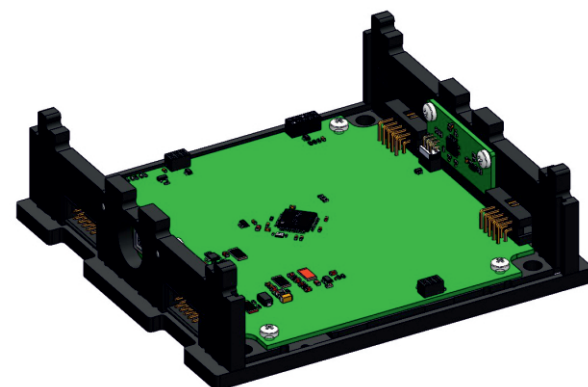

Fig. 12: Connecting a sun sensor board with the general-purpose board
2) Secure sun sensor boards #1 and #3 to side walls using two M3x6 screws on both sides. Assemble the resulting wall components together with the general-purpose board as indicated on the board: Sensor 1 and Sensor 3 respectively. To do that, align side wall protrusions with holes in the base plate and latch them. Also at this stage, sun sensor connectors have to be inserted into receptacles on the general-purpose board (Fig. 12).